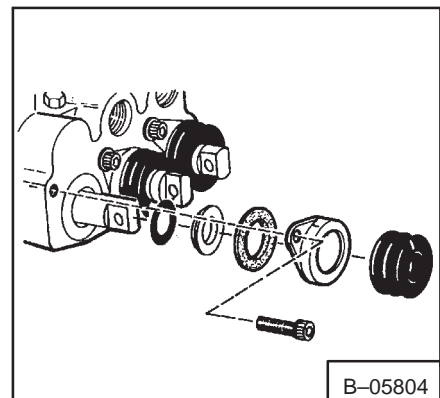

**Fig. 2–44a** Tilt Centering Spring Assembly
16. Install the washer and snap ring on the detent sleeve (Fig. 2–45a).
17. Put oil on the O–ring (Fig. 2–44a, Item 1). Install the O–ring on the tilt spool.
19. Install the back–up washer, end cap, centering spring, end cap and adaptor (Fig. 2–44a, Items 2 thru 6).
20. Put LOCTITE on the bolt (Fig. 2–44a, Item 7). Install and tighten the bolt to 90–100 in.-lbs. (10–11 Nm) torque.